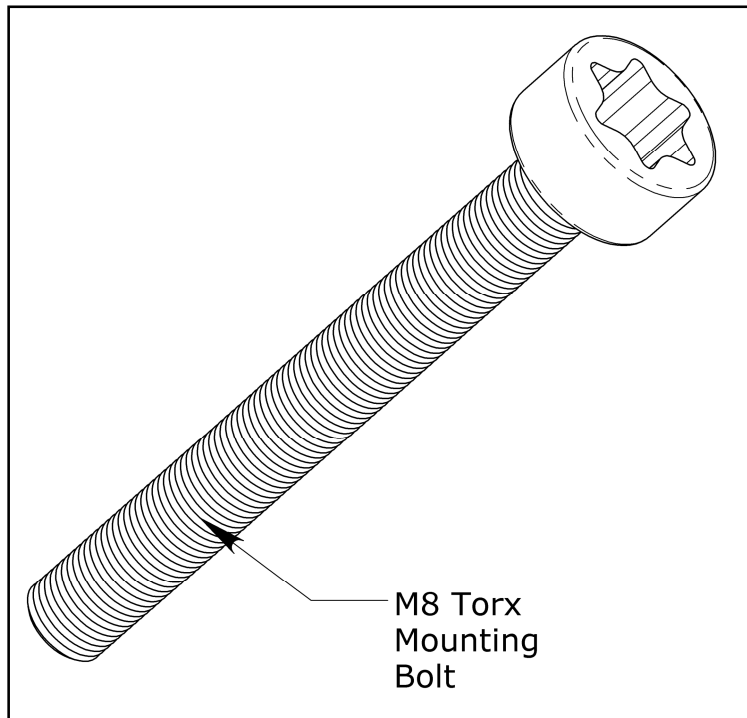

Figure 4: Tensioner Mounting Bolt
8. Hold the tensioner by engaging the 6mm Hex key into the arm Hex Hole and torque the M8 Torx Mounting Bolt (Fig.4) to **23 ~ 27 Nm**. Remove the Hex Key.